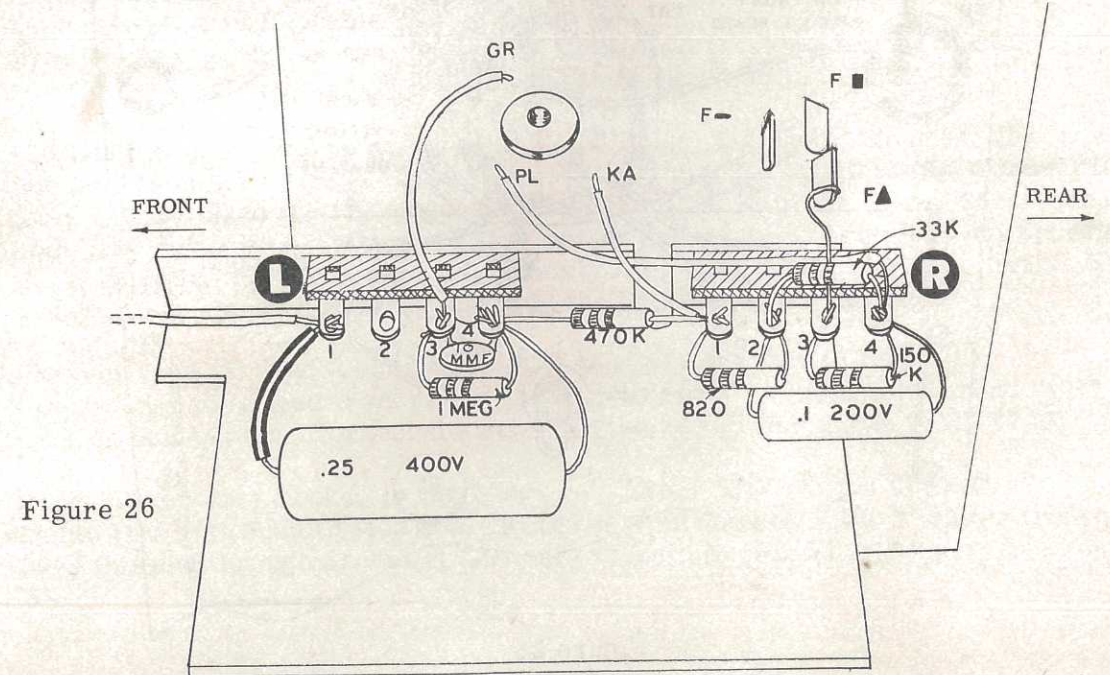

Figure 26
- (✓) Twist together two 10" lengths of hookup wire. Strip all four ends. At one end of the pair connect either wire to "X" on the rear circuit board (S). Connect the adjacent end to the other "X" (S). Pass the twisted pair through grommet GF and below the chassis. At the other end of the pair, connect one lead to H1 (S) and the other to H3 (S).
- (✓) Lay the scope over on its left side, and wire the two 4-lug terminal strips mounted on the flange of the bottom shield. The front terminal strip will be designated by the letter L(left) and the rear one by R (right). On each strip the lugs are numbered left to right (front to rear). Refer to Figure 26 for placement of parts.
- (✓) Connect the free end of the wire previously soldered to NN5 on the SYNC SELECTOR control to L1 (NS).
- (✓) Strip both ends of a 2 1/2" length of wire, and push one end into the hole in the circuit board marked GR. Solder the wire to the foil. Then connect the other end of the wire to L3 (NS).
- (✓) Similarly, with a 4" length of wire connect hole PL (S) to lug R4 (NS).
- (✓) Similarly, with a 1 1/2" length of wire connect hole KA (S) to lug R1 (NS).
- (✓) Connect a 1 megohm resistor from L3 (NS) to L4 (NS).
- (✓) Connect a 10 μ fd ceramic disc capacitor from L3 (S) to L4 (NS).
- (✓) Connect a 470 K Ω resistor from L4 (NS) to R1 (NS).
- (✓) Connect a .25 μ fd 400v plastic molded capacitor from L1 (use sleeving) (S) to L4 (S).
- (✓) Connect a short bare wire from lug F \blacktriangle on the filter capacitor (S) to R3 (NS).
- (✓) Connect a 150 K Ω resistor from R3 (S) to R4 (NS).